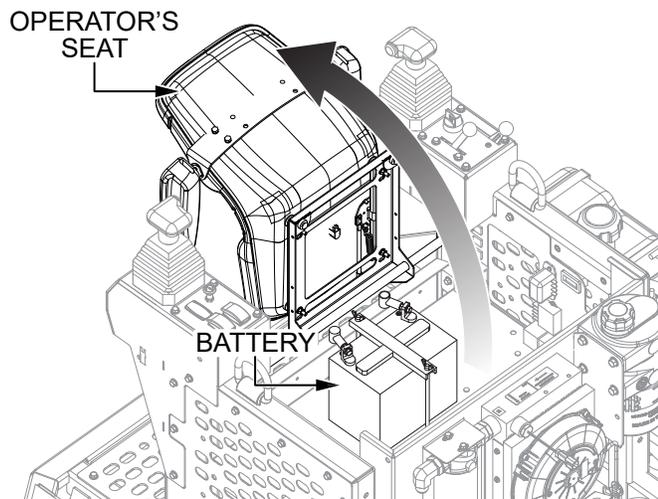

Figure 14. Battery Access
1. Tilt the **operator's seat** forward (Figure 14) to access the **battery**.